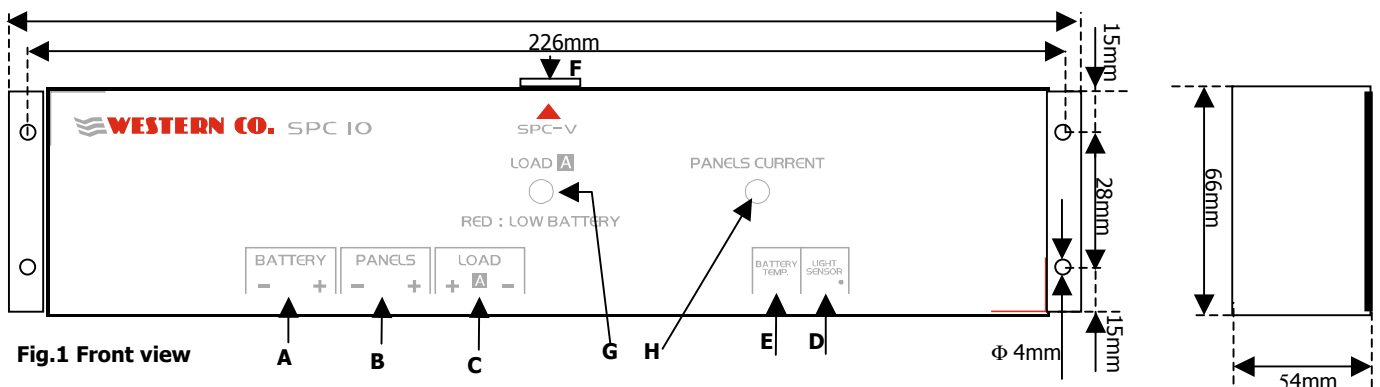

Fig.1 Front view
In the fig.1 you can see the battery charger's circuit; please, pay attention on what is written on it.
- Connect the battery with two suitable cables which have to be as short as possible, respecting the polarities that you can see in the figure. 1 **A**.